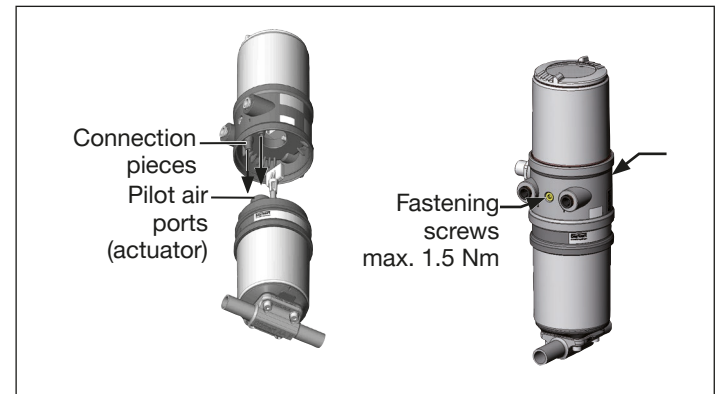

Fig. 7: Installation of positioner, 2103 and 23xx series
2. the connection pieces of the positioner can be inserted into the pilot air ports of the actuator (see also “Fig. 7”).